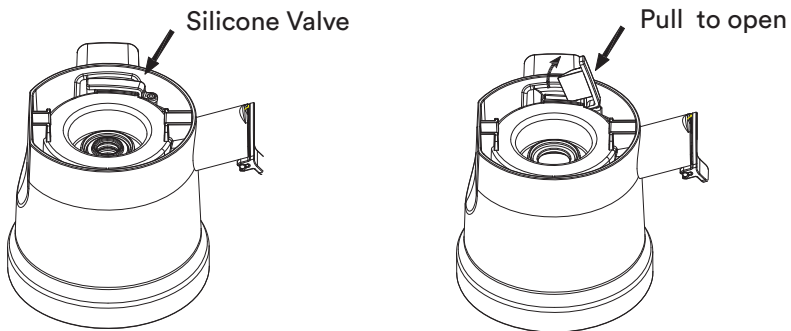

Fig 11
3. In case there are any residues remained in the mouth of the pulp spout, please pull out the silicone valve as shown in (Fig 11) below and clean under running water.